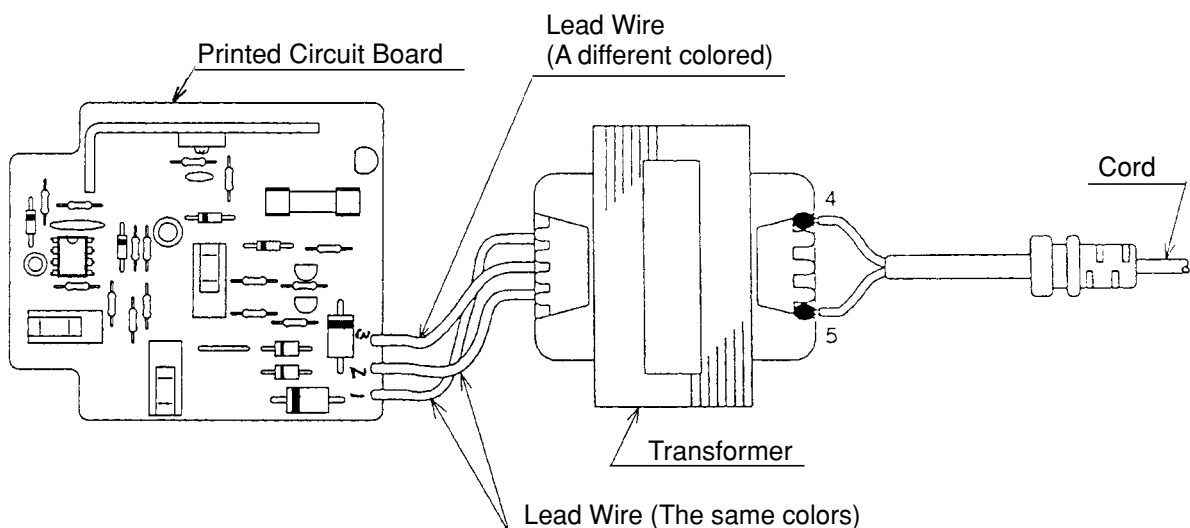

Fig. 3
- (1) Remove the four Screws (Plastic Tie) D4 x 20 **[5]**, and take off Case (B).
- (2) When the Transformer **[8]** is lifted upward, the Printed Circuit Board **[4]**, Cord **[9]** can be removed together.
- (3) To separate the Printed Circuit Board **[4]**, Transformer **[8]** and Cord **[9]** melt their soldered connections with a soldering iron at the points marked 1, 2, 3, 4 and 5 in Fig. 3. As excessive heat may damage the material of the Printed Circuit Board, use of the soldering iron should be limited to less than three seconds at one time.